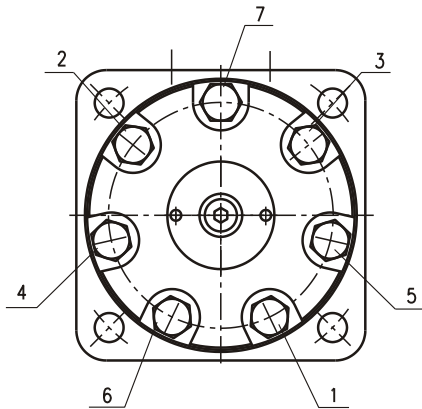

Fig.16
18. Install screws and washers in end cover. Tighten screws with  $6,5 \div 7$  daNm torque using a S=17 mm spanner socket in sequence as shown in Fig.16.